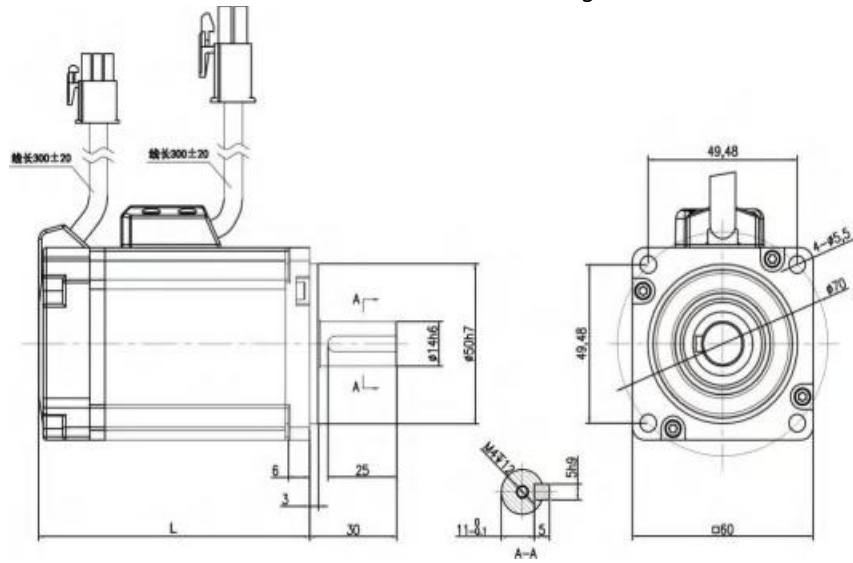

Figure 3.2 60 Motor and Table 3-1
- Installation dimensions of 60 frame motor (see Figure 3.2 and Table 3-1)